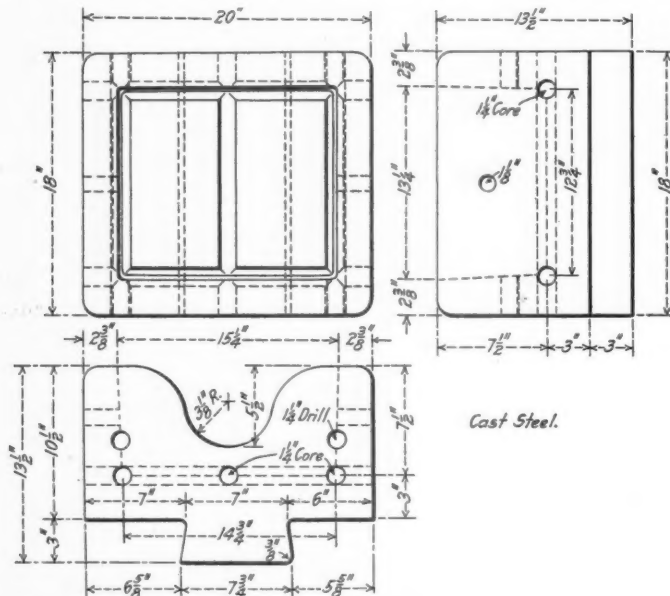

Fig. 8—Foundation Die for 4,000 lb. Steam Hammer; Central of New Jersey.
G. W. Kelly (C. R. R. of N. J., Elizabethport, N. J.):—A foundation die used on a 4,000 lb. steam hammer is shown in Fig. 8. It is a steel casting which is keyed to the base of the